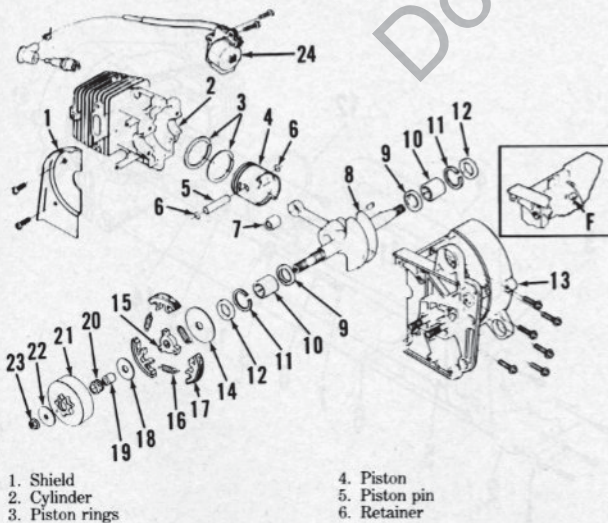

Fig. HL324—Exploded view of engine and clutch assemblies. Pulse fitting (F) is connected to oil pump pulse hose.
Cylinder may be removed after unscrewing socket head cap screws in bottom of crankcase (13—Fig. HL324). Be careful when removing cylinder as crankshaft assembly will be loose in crankcase. Care should be taken not to scratch or nick mating surfaces of cylinder and crankcase.
CLUTCH. Refer to Fig. HL324 for exploded view of shoe type clutch used on all models. Clutch hub (15) has left-hand threads and is removed by unscrewing clockwise.